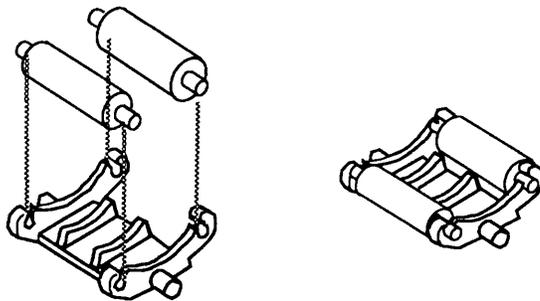

Figure 11
□ **PINCH ROLLER ASSEMBLY (Figure 11)**